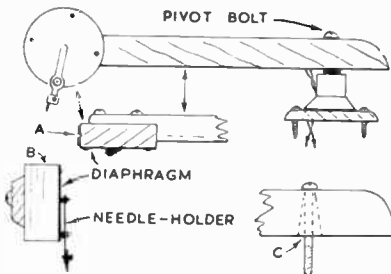

Fig. 3 - The completed pick-up and arm
should, however, have a small free up-and-down movement at the thin end. To arrange for this, the pivot hole should be lengthened slightly at the bottom to form a slot, as shown at (C) in Fig. 3. This can easily be done with a small chisel, taking care to keep the slot as smooth as possible inside so that there is no sideways wobble or impediment to the motion.
To assemble the parts, place a small washer on the bolt that has been removed, then two rubber washers. Then place on the small rubber washer and needle-holder, completing with two more rubber washers (see (D) in Fig. 2, and also Fig. 3). It will be seen that the needle-holder is now pivoted without being in contact with the bolt. This insulation is not used for electrical reasons, but to prevent chatter or
The pick-up is secured to the arm by means of two small bolts from the back. These pass through the wood into the holes found in the back of the earphone unit. The needle should slant a little in the direction of rotation of the record, as shown in Fig. 3. Here (A) is a top view of the pick-up and arm, and (B) a view looking directly at the arm from its